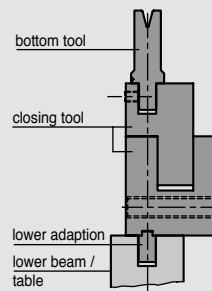

Fig. 4.8
- in the clamping slot in the table or lower beam using a clamp holder (Fig. 4.8).